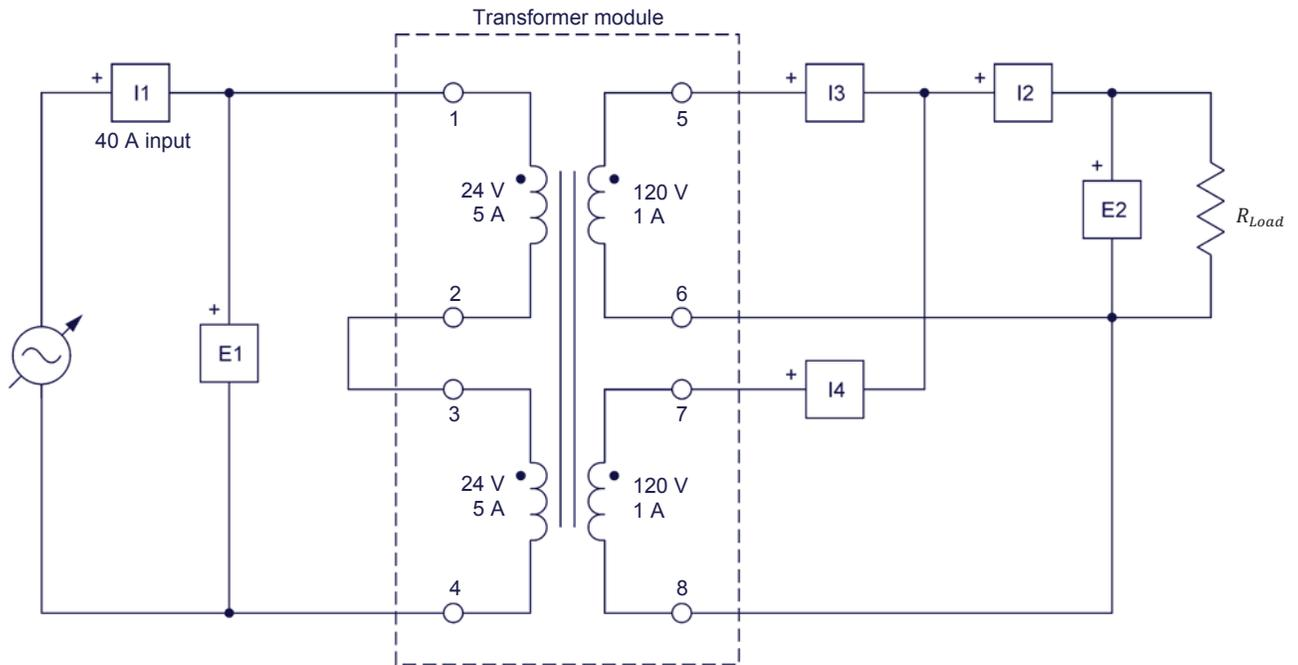

Figure 20. Step-up transformer with windings connected in parallel.
- 31.** Modify the connections in the circuit to obtain the circuit shown in Figure 20. Do not change the resistance of the resistive load. In this circuit, the two secondary windings (windings 5-6 and 7-8) are connected in parallel with the resistive load.